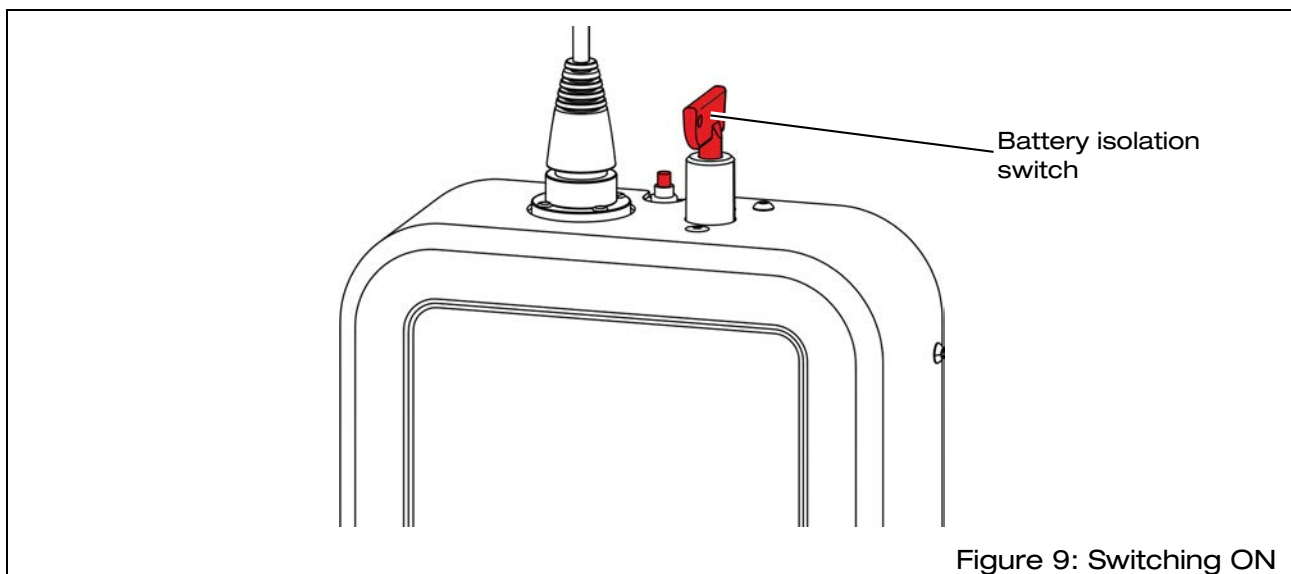

Figure 9: Switching ON
⇒ Switch the linear lift OFF at the battery isolation switch (5) (see Figure 9).
- ⇒ Insert the key into the battery isolation switch (5) (see Figure 9, page 26).
- ⇒ Switch the linear lift ON at the battery isolation switch (5).
- ⇒ Switch the linear lift OFF at the battery isolation switch (see Figure 9, page 26).
- ⇒ Switch the linear lift ON (see Figure 9, page 26).
- ⇒ Press and hold the “UP” push-button on the remote control (1).
- ⇒ Switch the linear lift OFF at the battery isolation switch (5) (see Figure 9, page 26).